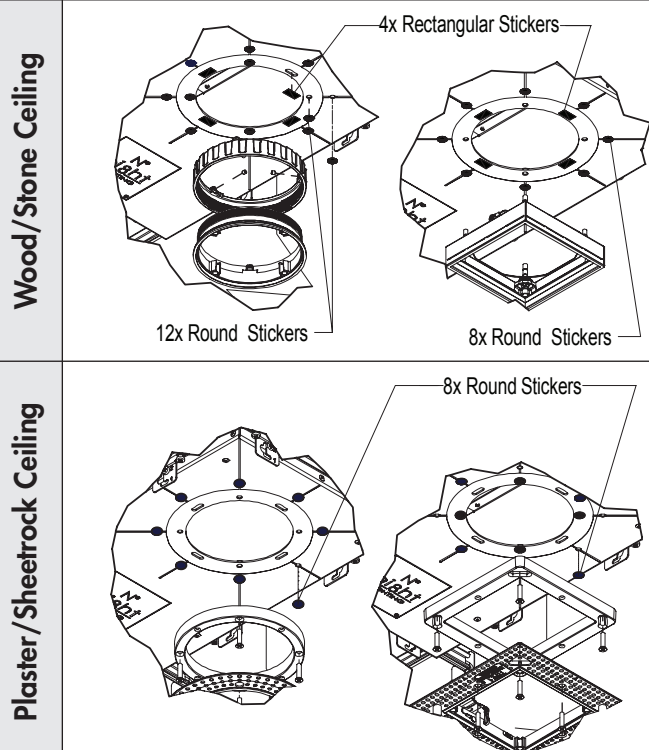

FIG 3.4 Sticker Application
SEE PAGE 3, FIG. 3.4 FOR STICKER INSTALLATION
STEP 4 Apply Stickers over unused holes & slots as shown to prevent light leaks & maintain airtight standards compliance. No caulking required – FIG 3.4.